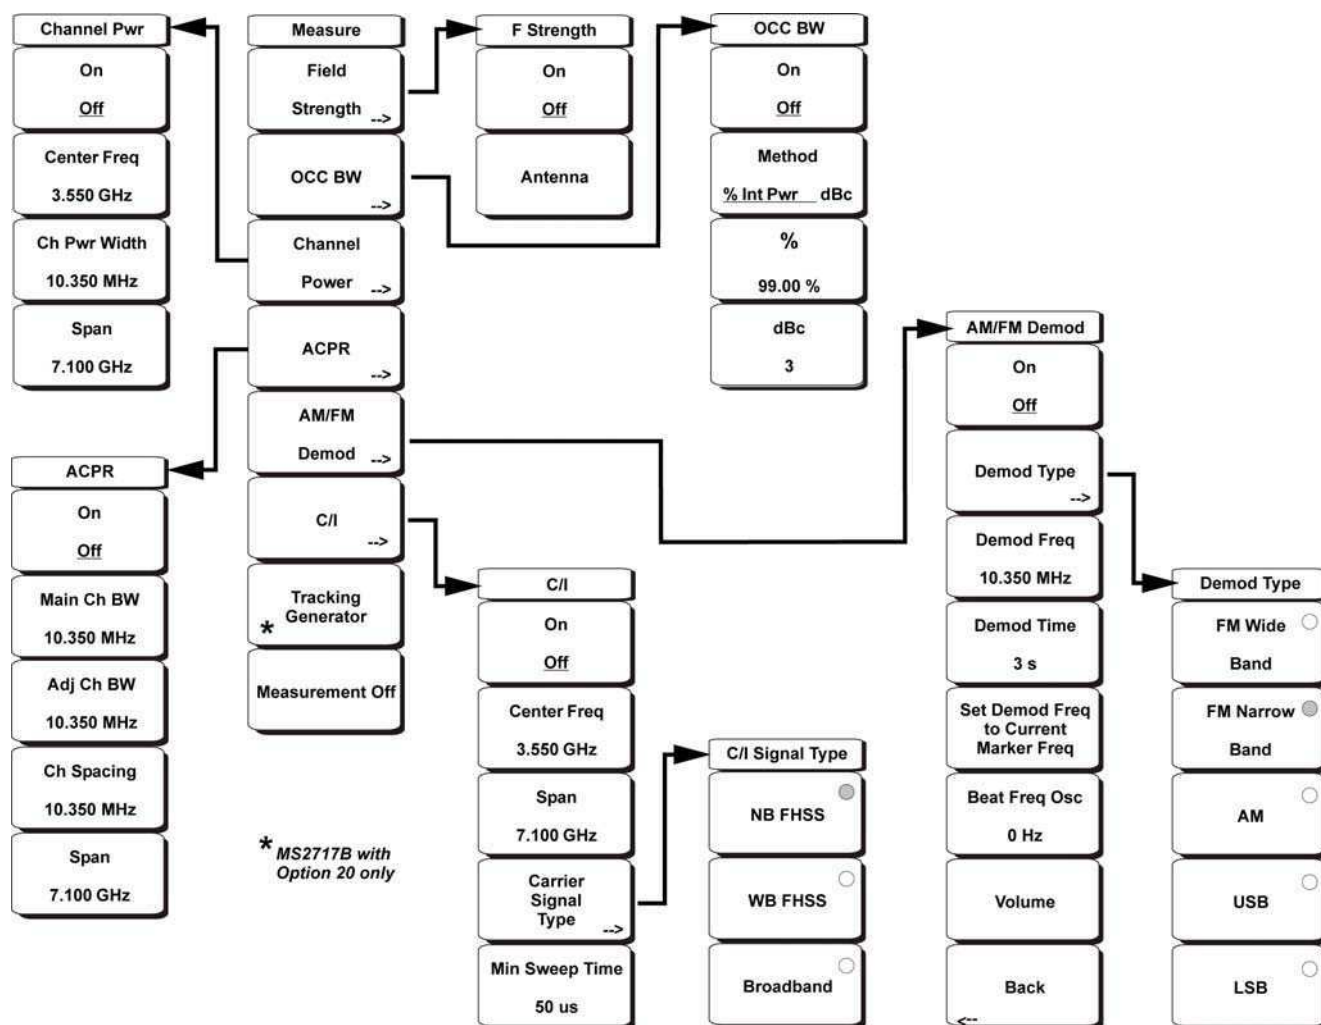

Figure 3-9. Measure Menu Soft Keys
To access the functions under the Measure menu, press the **Shift** key, then the **Measure** (4) key. The Measure menu soft keys are shown in Figure 3-9: